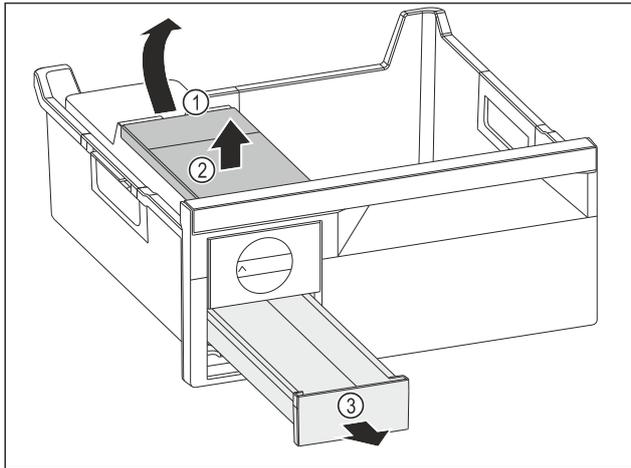

Fig. 111
- ▶ Removing the water tank: Lift the water tank by the recess Fig. 111 (1).
- ▶ Remove the water tank Fig. 111 (2) upwards.
- ▶ Remove the ice cube drawer Fig. 111 (3) to the front.